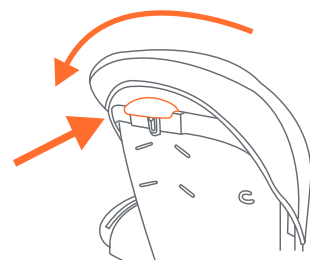

Fig. 12
12) • Squeeze recline lever on back of the seat and adjust to the preferred recline or upright position (Fig. 12). Use caution not to trap arms, hands and fingers when adjusting recline positions.